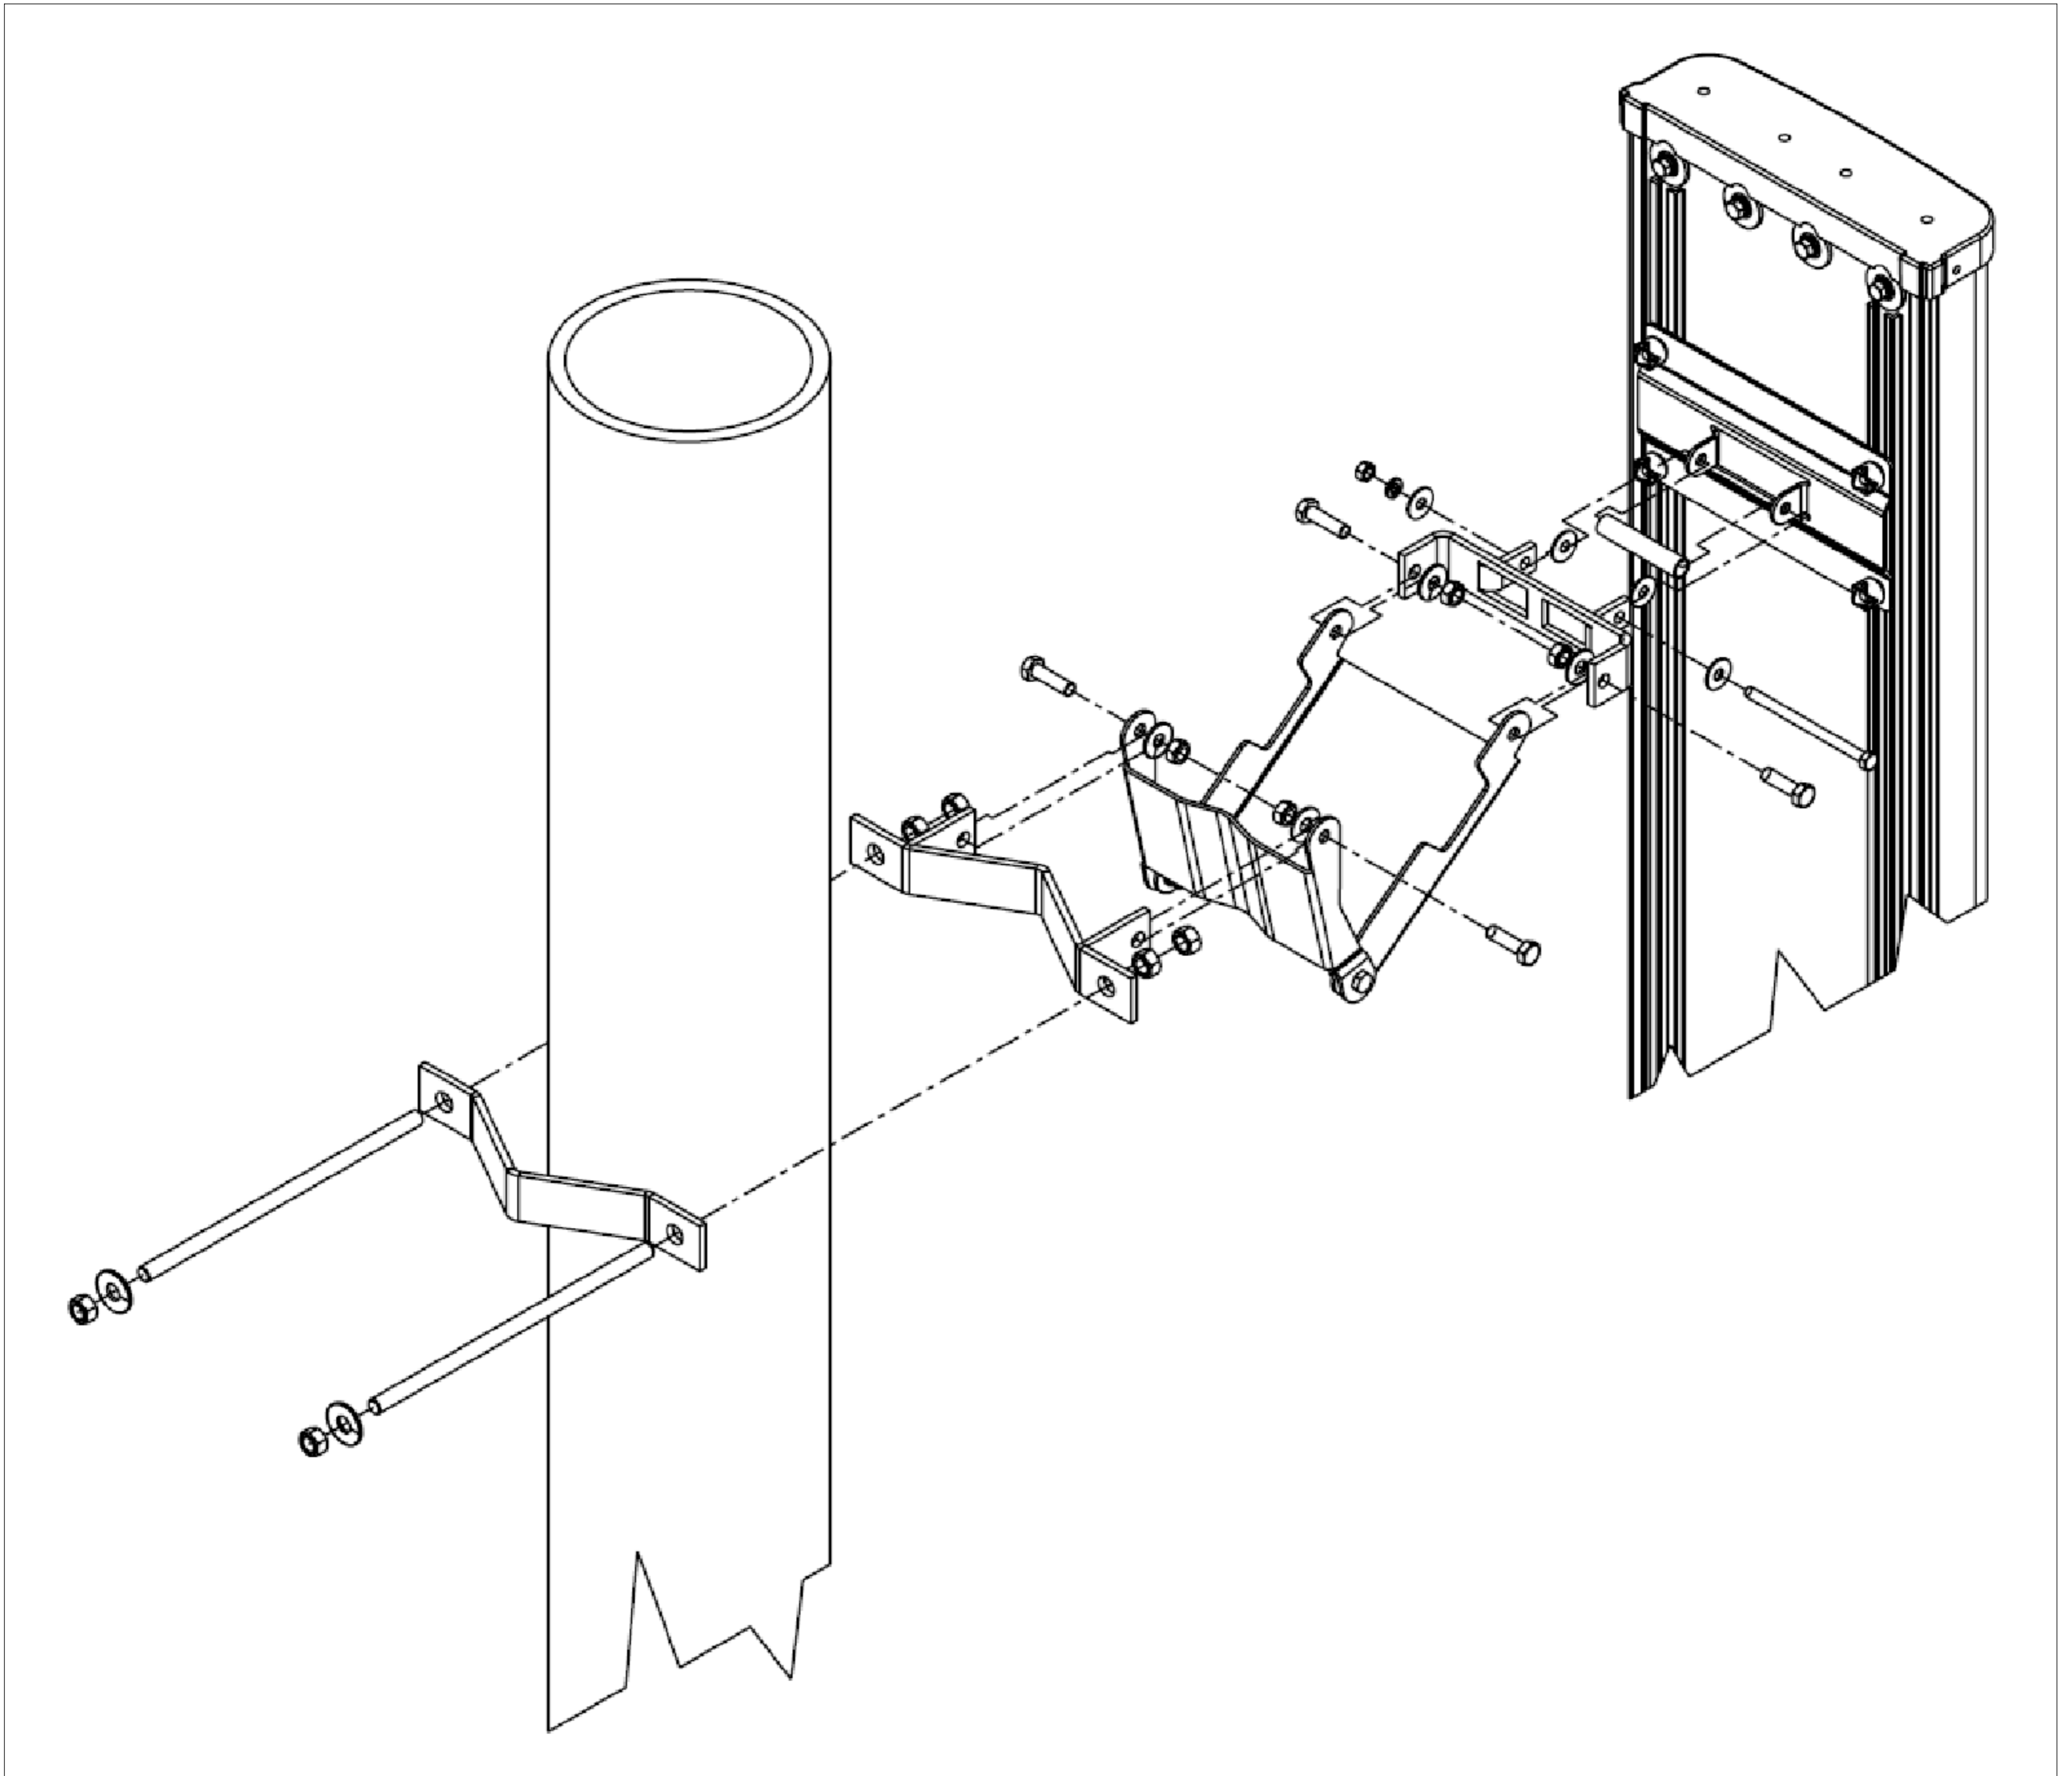

Figure 5. Downtilt Mounting Using DB380-9 Pipe Mount Kit with DB5083 Downtilt Kit.
3. Attach the DB5083 bracket to the antenna's top adapter bracket using the M10 hardware provided with the DB380-9 kit (Figure 5).
4. Insert the M12 bolts into the pipe brackets with tabs as described in Step 5 of the DB390-9 Installation Instructions (Figure 5).
5. Attach one of the pipe bracket assemblies to the DB5083 bracket using hardware included with the DB5083 kit. Attach the other pipe bracket assembly to the antenna's bottom adapter bracket using the M10 hardware included with the DB380-9 kit (Figure 5).